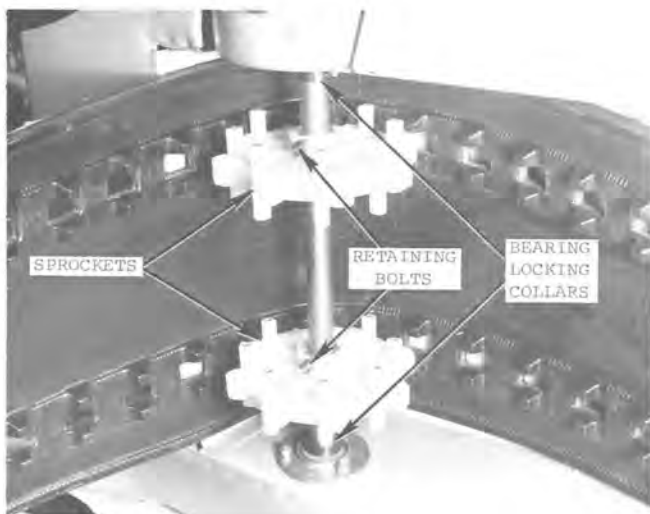

Fig. 83 — Track Front Axle Shaft Installed
3. Loosen the bearing locking collars on the track's front drive shaft. (See Fig. 83.)
- f. Loosen the bearing locking collars on the track's front axle shaft. See Fig. 83. Also remove the axle sprocket retaining bolts, washers and nuts.